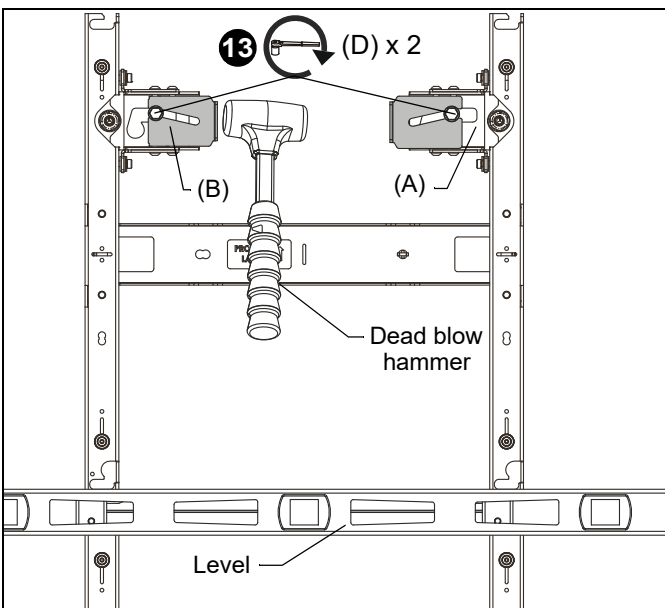

Figure 9
- Check the level of the mount at the bottom of the teardrop slots. (See Figure 9)
- If the mount is not level, slide or use a dead blow hammer to lightly tap the spacer into place. This will lift the mount up as the lag screw rides in the washer's angled slot. (See Figure 9)
- When the mount is leveled, tighten the lag screws (D). (See Figure 9)